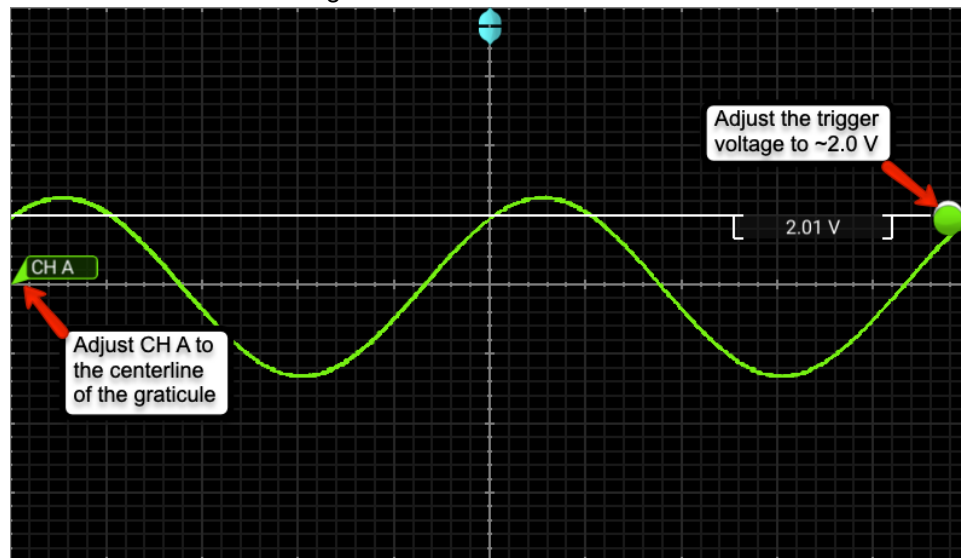

Figure 10: Example of a 5V, 10kHz waveform centered with 2.0 V trigger.
5. Your screen should look like Figure 10.